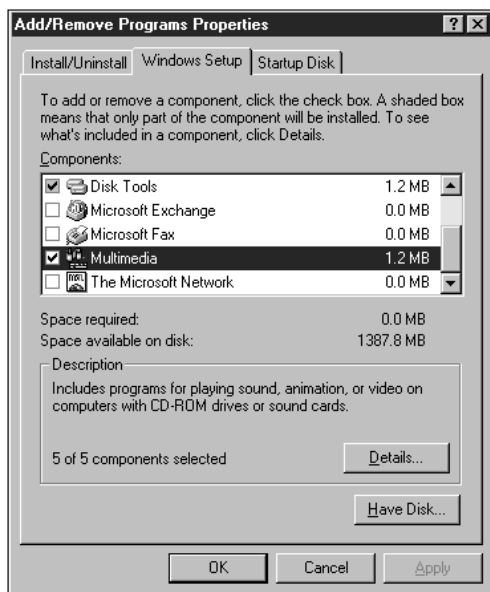

Figure 10-15 Windows 9x offers multimedia support
2. Click the **Windows Setup** tab. From this tab, shown in Figure 10-15, you can install components of Windows 9x that were not installed at the original installation.